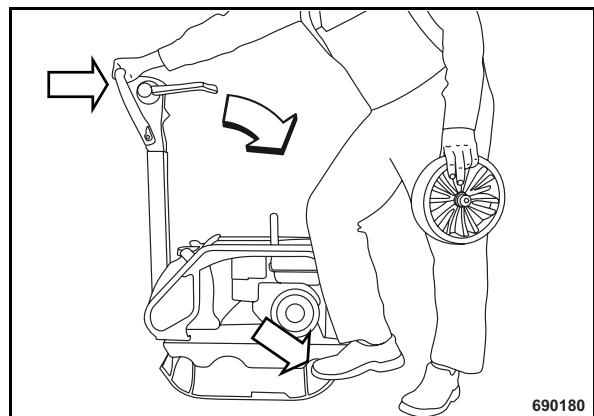

Fig. 31
- Tilt the machine forward by the steering rod (Fig. 31).